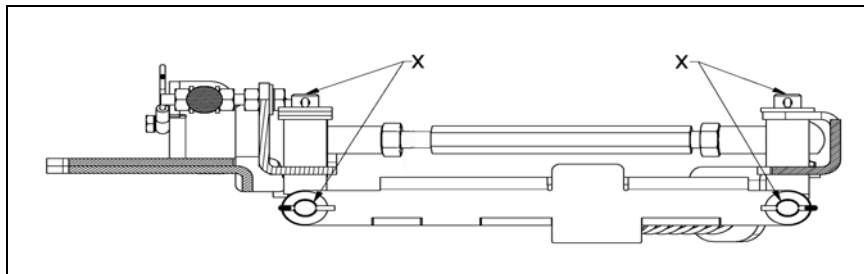

Fig.22
- Rear squeegee caster axle (2)
- Squeegee lift mechanism joints and pivot points (Fig. 22/X)